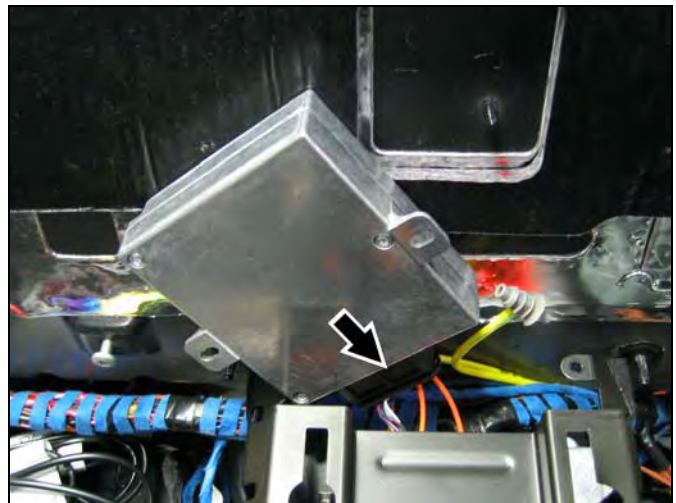

Figure 10
7. At the backside of the center console bracket, connect the VCS power supply/MOST connector to the VCS control module (Figure 10).